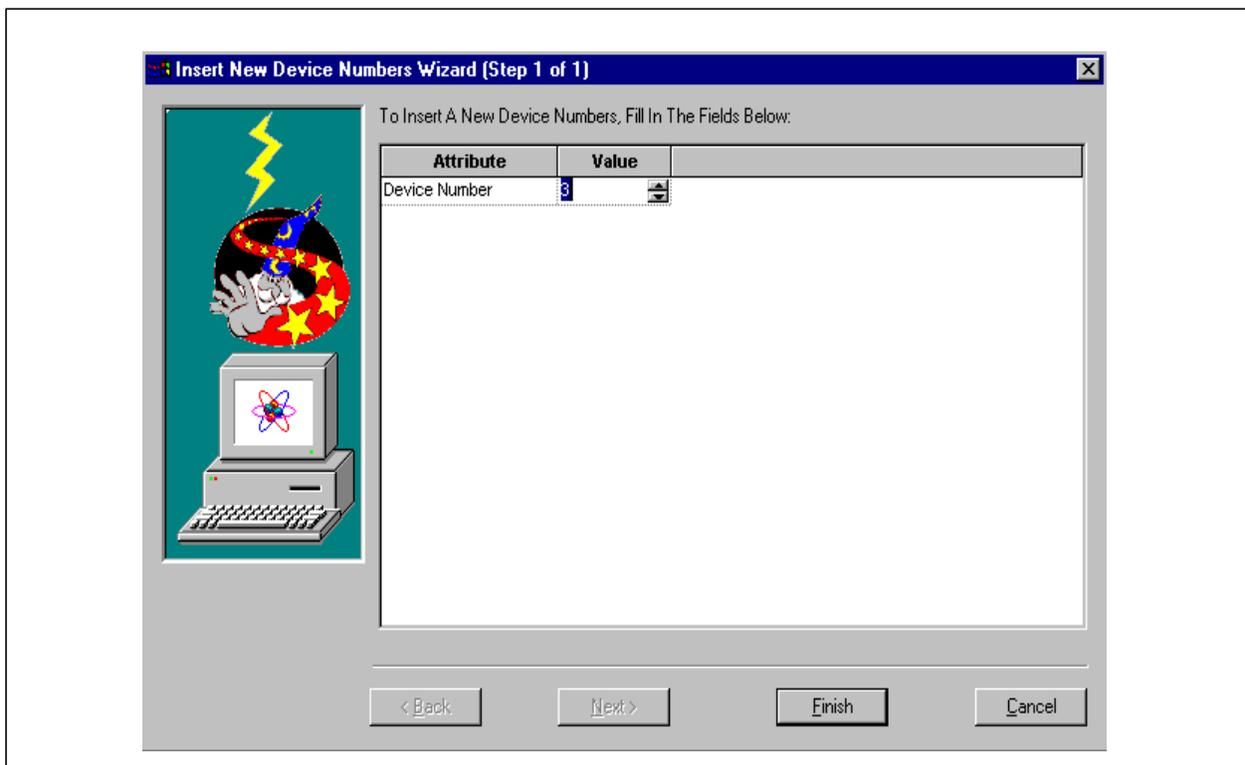

Figure 3-3. Insert New Device Numbers Wizard
5. The Insert New Device Numbers Wizard appears (see Figure 3-3).